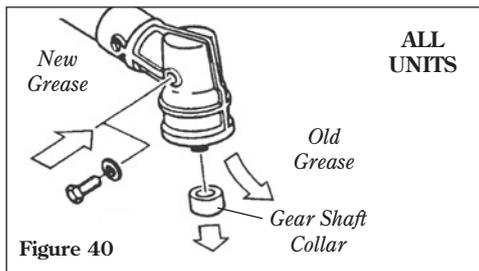

Figure 40
- Remove the cutting attachment, cutting attachment holder and gear shaft collar. Remove the filler plug from the side of the gearcase and press new grease into the gearcase until grease is pushed out. Use only lithium-base grease such as Shindaiwa Gear Case Lubricant or equivalent. See figure 40.